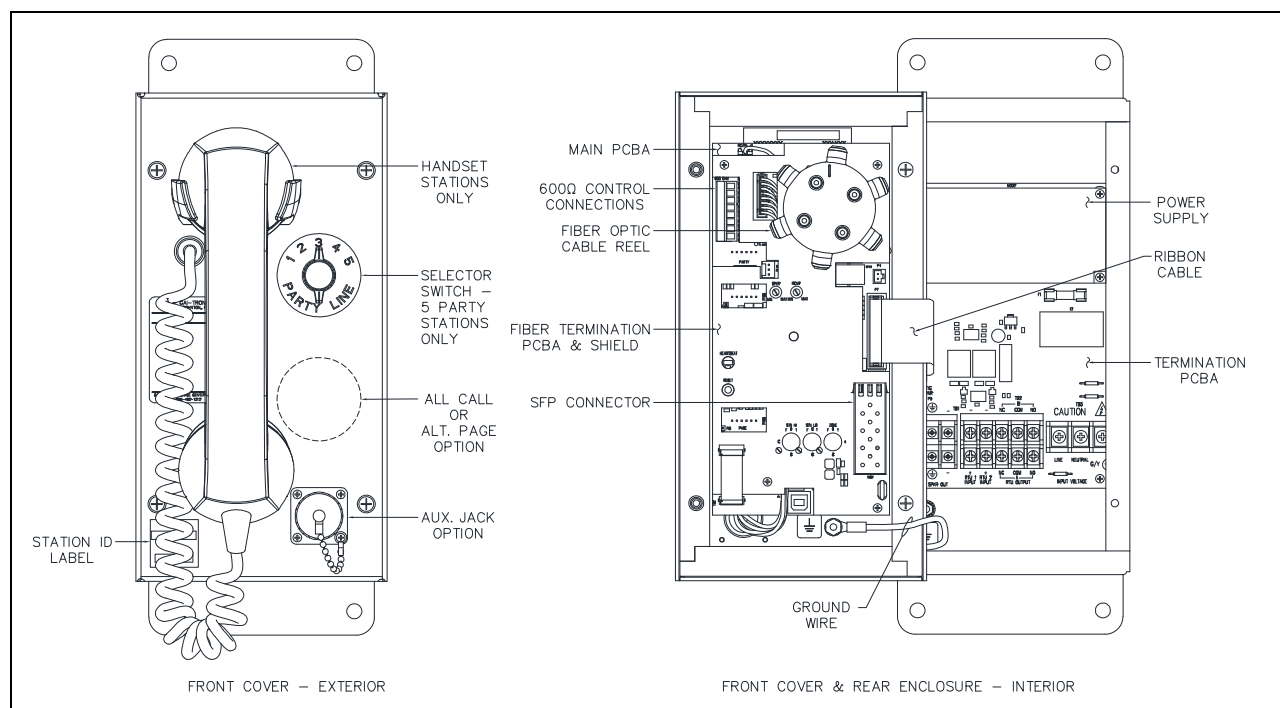

Figure 1. SP2 Fiber Class I Div. 2 Station
This guide covers the installation of SP2 fiber Class I Div. 2 handset/speaker amplifier stations (see Figure 1). Refer to Publication 42004-790 for detailed explanations of available configuration options and adjustments, system specifications, and warranty information. GAI-Tronics' product documentation is on the GAI-Tronics website at <https://www.gai-tronics.com>.
2. Secure it to the ground terminal located at the lower left corner in the back of the rear enclosure (see Figure 1).